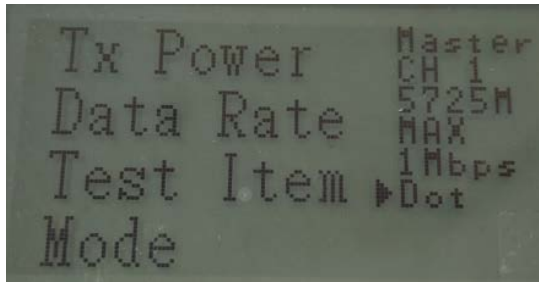
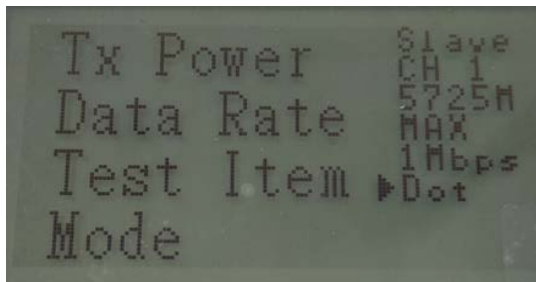
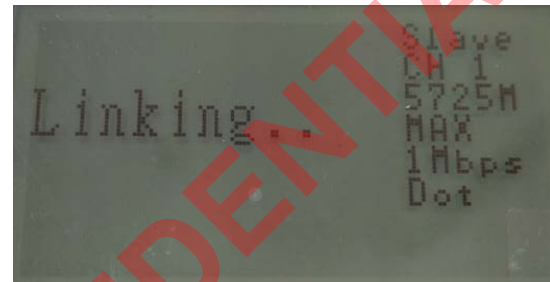

Fig 19
Fig 22
Fig 23
- CH Selection: as show as Fig 19 and Fig 22.
1. Press '↓' or '↑' button to select Dot as shown in Fig 19.
1. Press '↓' or '↑' button to select Dot as shown in Fig 22 and Fig 23.